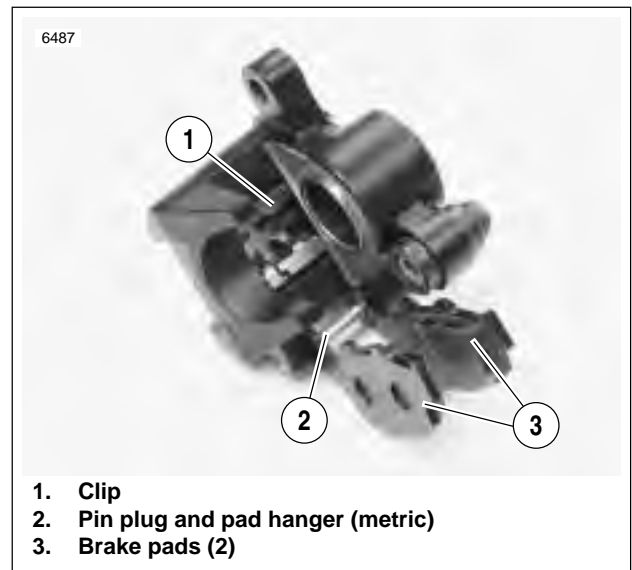

Figure 2-53. Brake Pads
2. See Figure 2-53. Remove spring clip (1).
1. See Figure 2-53. Place clip (1) inside caliper body as shown.
3. See Figure 2-53. Install brake pads (3) using pad hanger and pin plug (2).